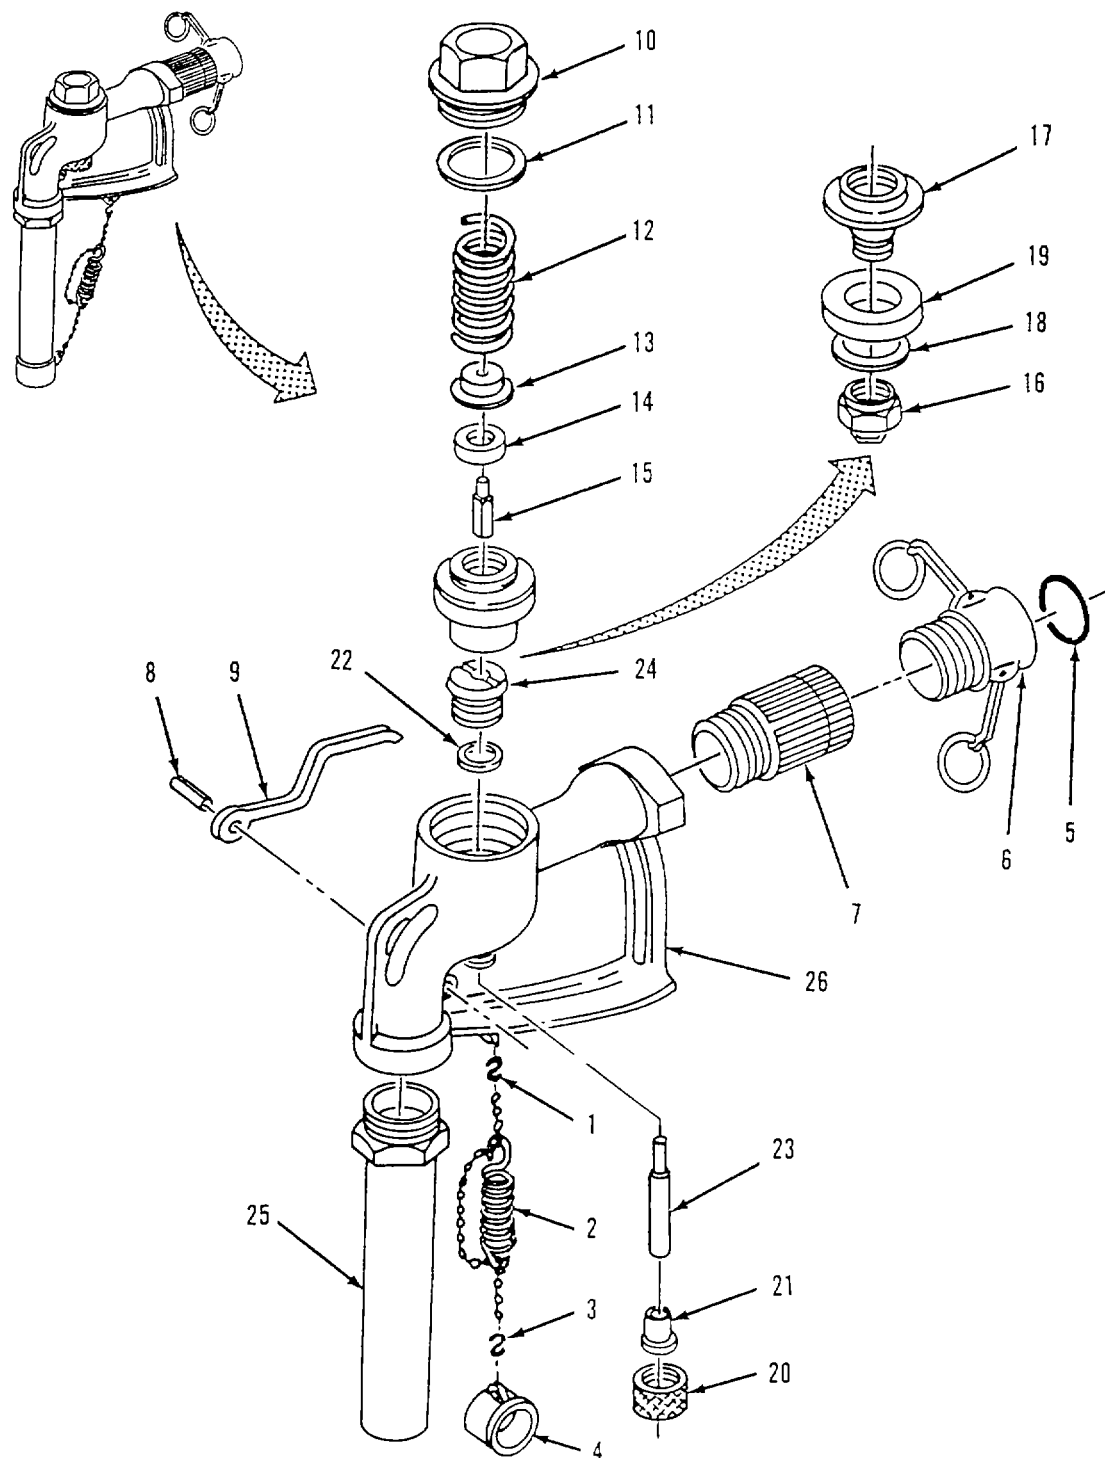

Figure 4-15. Distribution Nozzle (1 1/2-Inch) Assembly.
- (1) Inspect body (26) for cracks and stripped or damaged threads.
- (2) Inspect handle (9) for cracks.
- (3) Inspect tube and adapter (25) for bends, cracks, and deformation.
- (4) Inspect stem (23) for scoring. Check that stem is straight.
d. Repair. Replace damaged parts and all sealing components.e. Assembly. Refer to figure 4-15.
- (1) Screw tube and adapter (25) into body (26).
- (2) Install packing (22) in stuffing box (24), then screw stuffing box down into body (26).